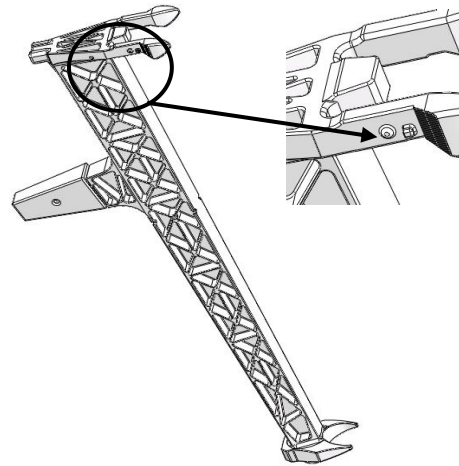

Figure 4
- 4) Marking on the corresponding position of the 6 landing gears as Figure 4.